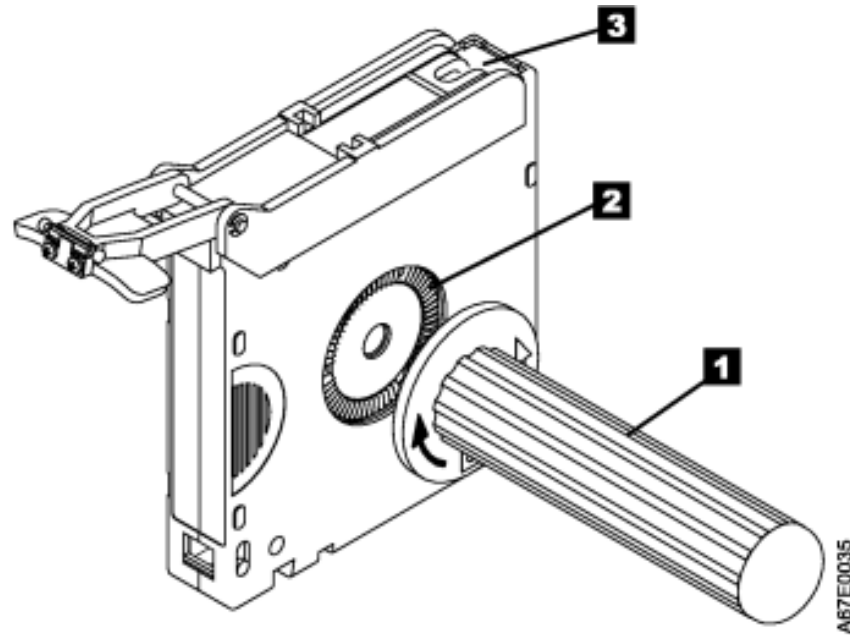

Figure 40. Winding the tape out of the LTO tape cartridge
2. To find the end of the tape inside the cartridge, attach the cartridge manual rewind tool (1 in Figure 40 on page 133) to the cartridge's hub (2) by fitting the tool's teeth between the teeth of the hub. Turn the tool clockwise until you see the end of the tape inside the cartridge. Then, slowly turn the rewind tool counterclockwise to bring the tape edge toward the cartridge door (3).